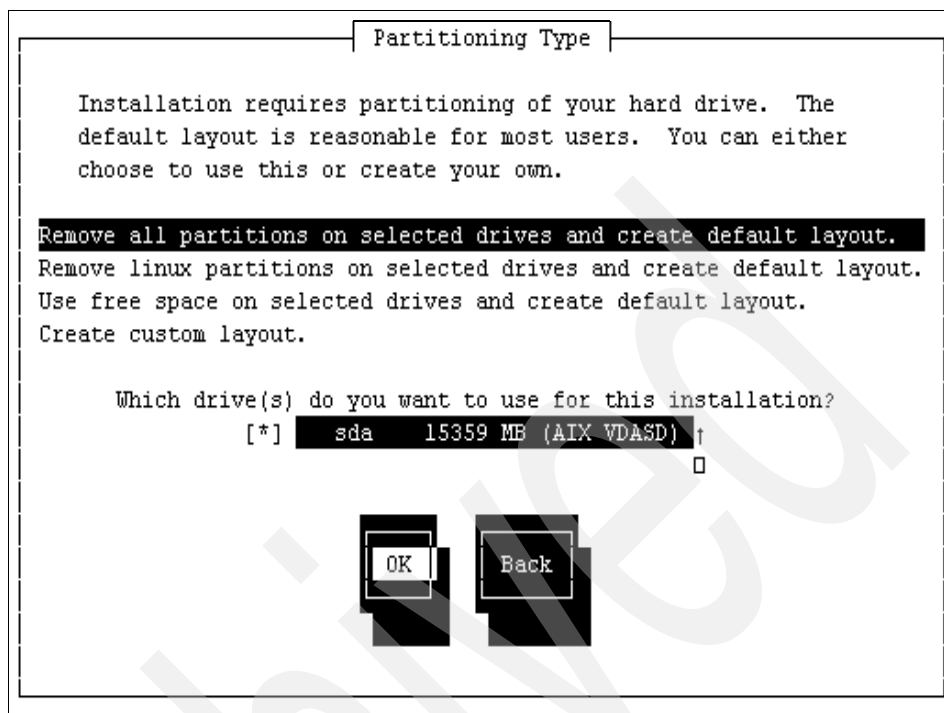

Figure 8-16 Select Partitioning Type panel
11. Select the disk partitioning type for this installation. In this scenario, we have selected the option **Remove all partitions on selected drives and create a default layout**. The drive we have selected is /dev/sda, which is the externally connected storage SAN disk that was partitioned using the IVM tools. See Figure 8-16 on page 341 as an example.